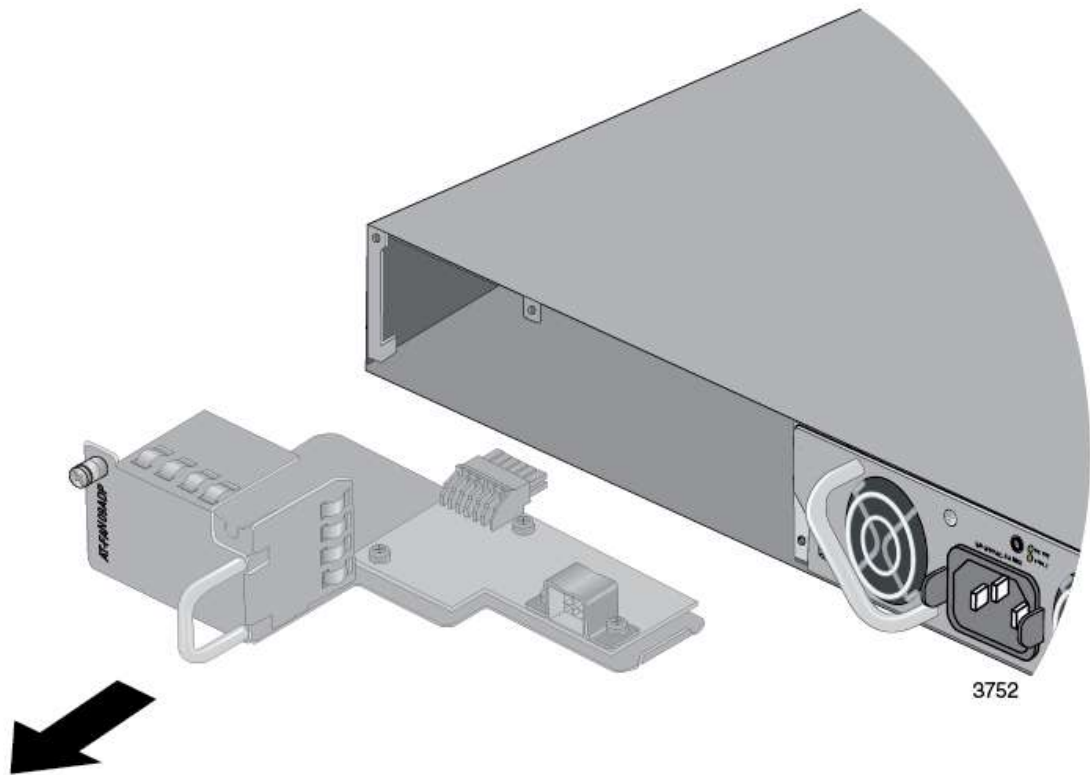

Figure 31. Removing the AT-FAN09ADP Module
6. Carefully pull the AT-FAN09ADP Module from the switch. Refer to Figure 31 on page 81.